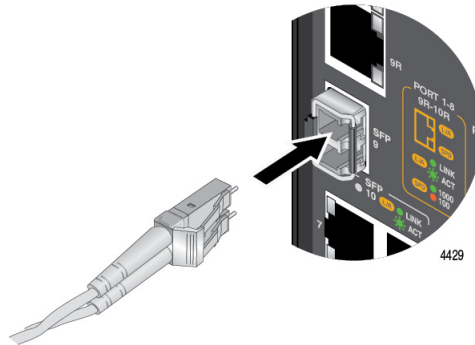

Figure 31. Connect Fiber Optic Cable To SFP Transceiver
5. Connect the fiber optic cable to the transceiver. The connector on the cable should fit snugly into the port, and the tab should lock the connector into place. Refer to Figure 31.